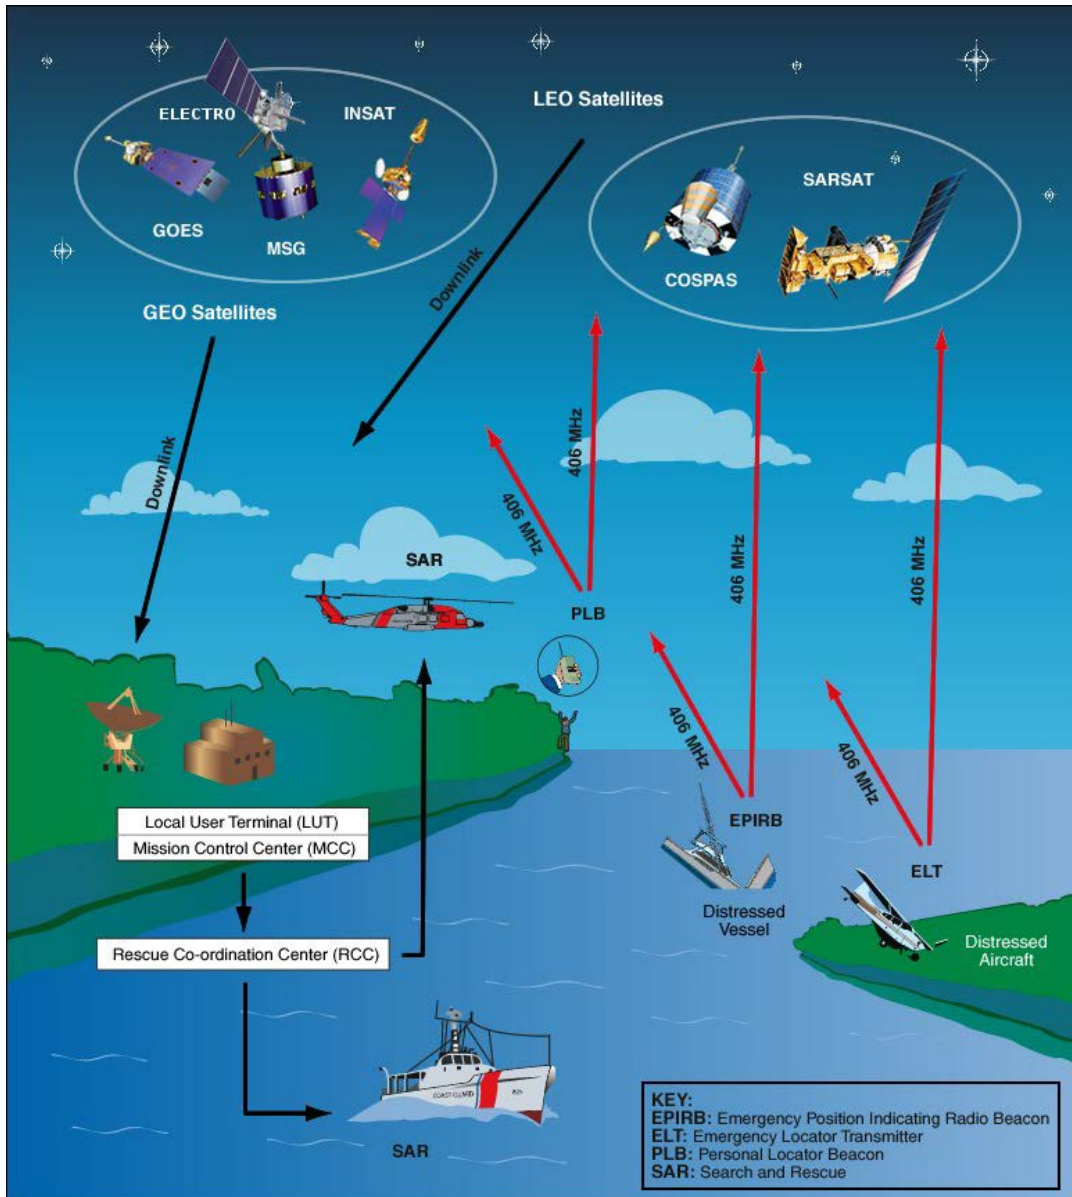

Figure 1
B. System organization (Ref. Figure 1)